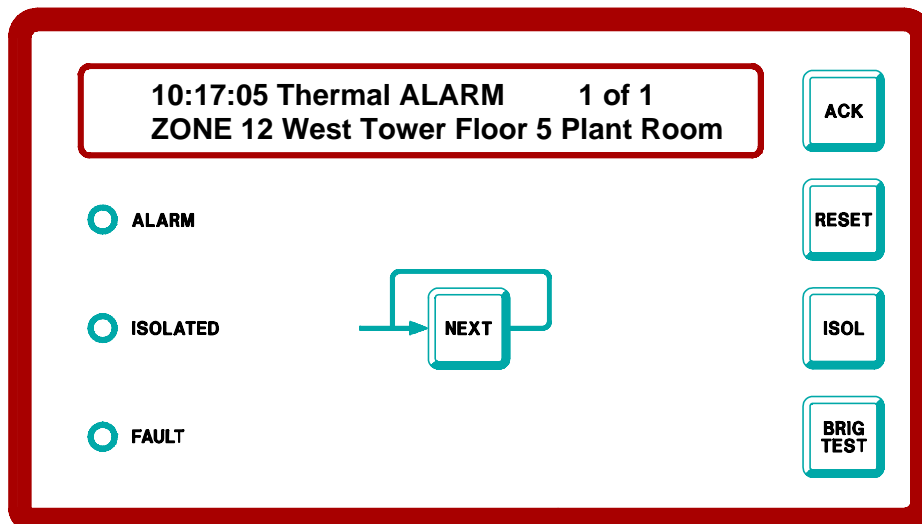

FIG 5.1
When an alarm occurs, the RDU switches automatically from the base (or other) display to FFCIF mode and displays the alarm. The keys that can be used are then limited to those within the Fire Fighter's Control and Indicating Facility (FFCIF), plus the "PREV" key, the "CLEAR ESC" key and the "BELLS ISOL" key. The FFCIF is the area of the keypad within the red border, as shown in Figure 5.1.
- (iii) Whether the alarm is acknowledged or not (Figure 5.1 shows an unacknowledged alarm).